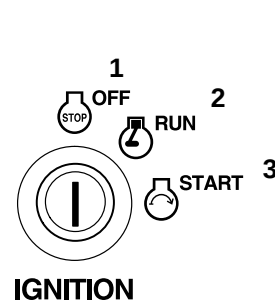

Figure 6
6. Turn ignition key “START” to energize starter. When engines starts, release key (Fig. 6).
2. Turn the ignition key to “OFF” (Fig. 6).